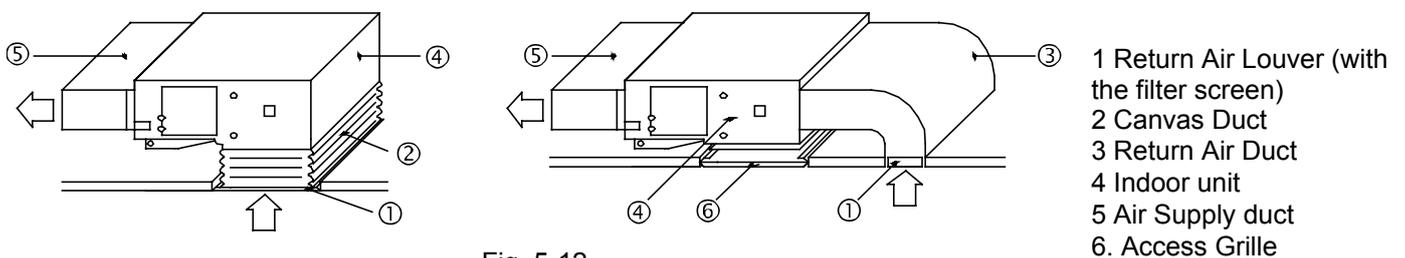

Fig. 5-12
- 5) The installation method can be chose with considering the conditions of the building and maintenance etc., as shown in Fig. 5-12.